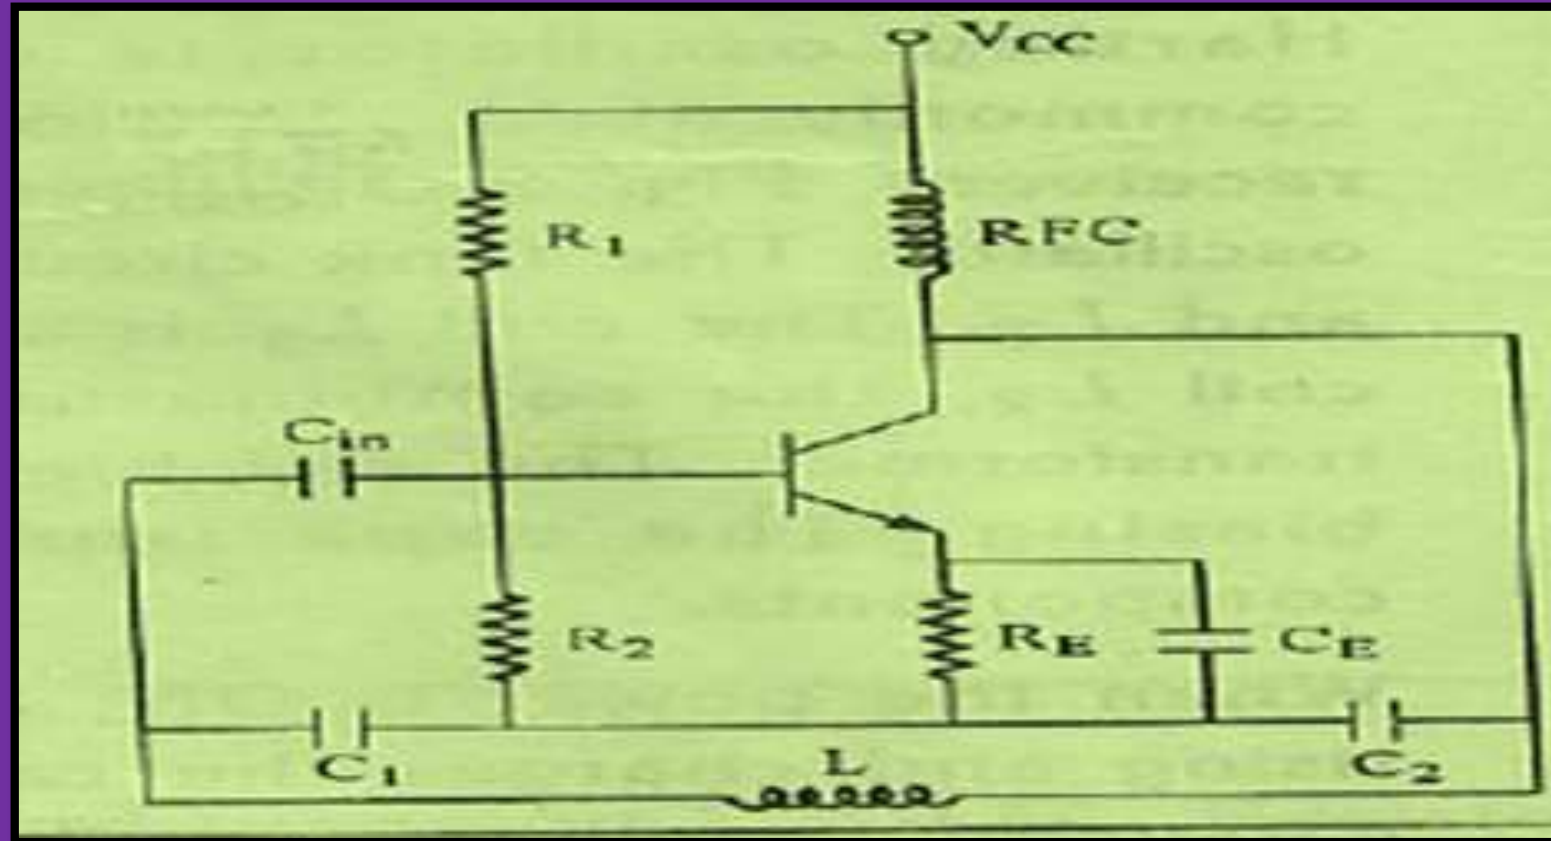

Fig.1
- Fig.1 shows the circuit of Colpitts oscillator.